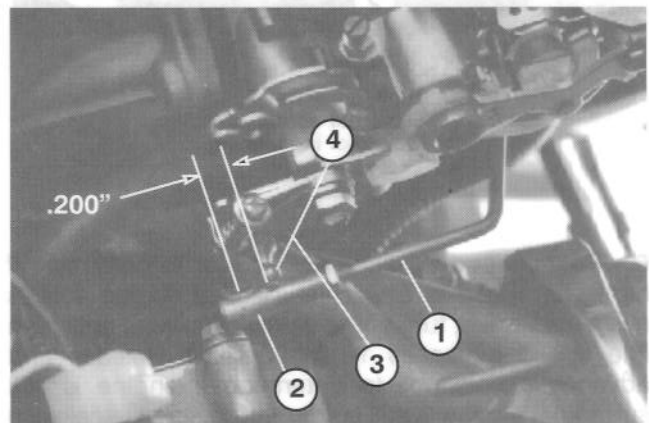

Figure 42
2. Rotate governor input lever clockwise to put a light tension load on the governor spring. Hold carburetor throttle against wide open throttle stop and adjust the ball joint on throttle rod to allow the ball joint socket to travel past the carburetor throttle stud by .200" ±.031" (Fig. 42). Tighten locknuts on throttle rod. Ball joints must move freely through full travel.
3. While rotating governor input lever counterclockwise and holding the carburetor throttle against the low idle stop, adjust the surge screw to allow the ball joint socket to travel past the carburetor throttle stud by .200" ±.031", in opposite direction shown in figure 42.